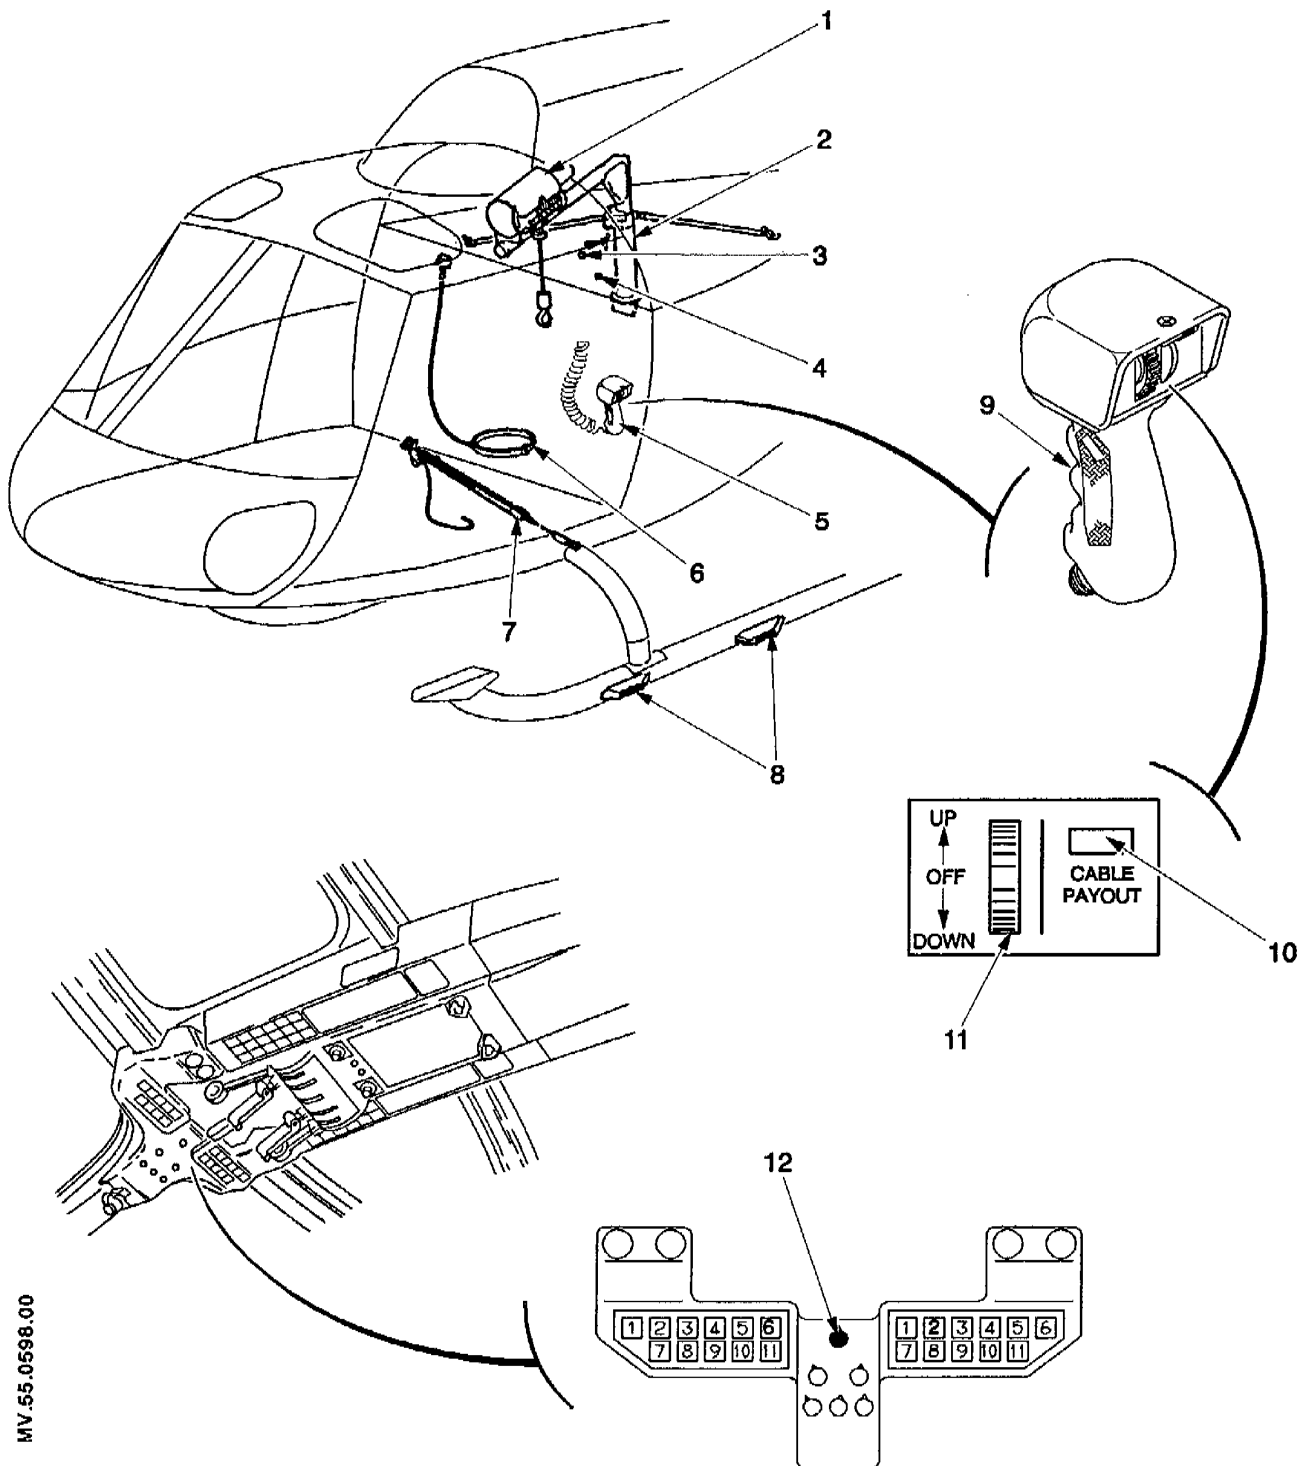

Figure 1
1.1 Description of the installation (Figure 1)